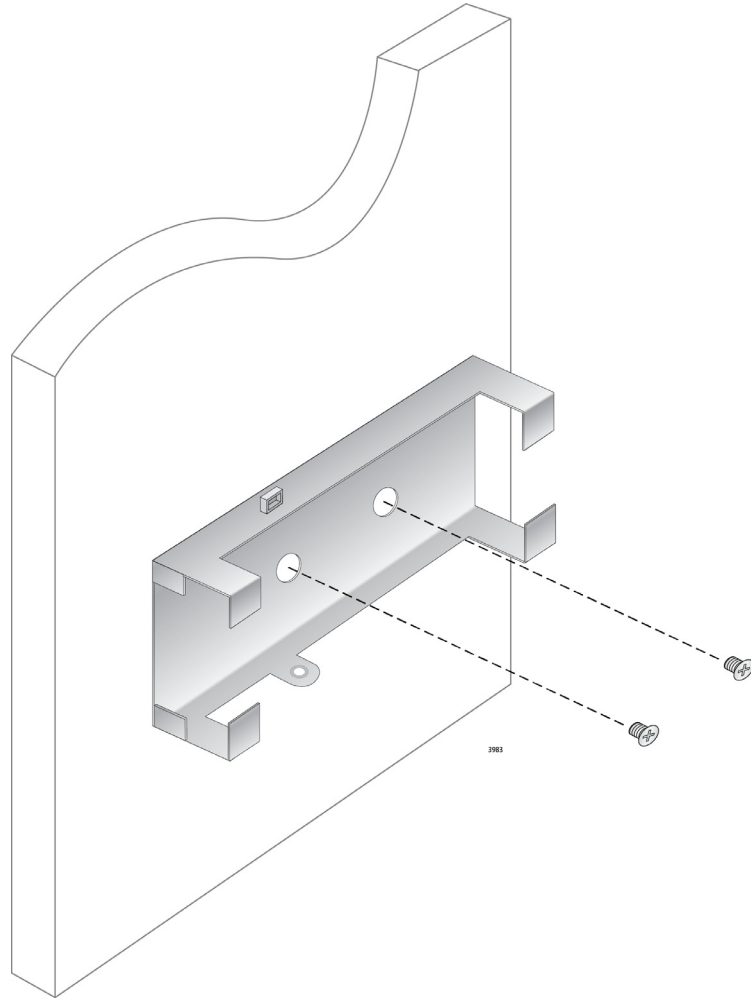

Figure 20. Securing the Mounting Bracket to the Wall
4. Secure the bracket to the wall using two wall mounting screws (included with the separately purchased bracket). See Figure 20 on page 42.